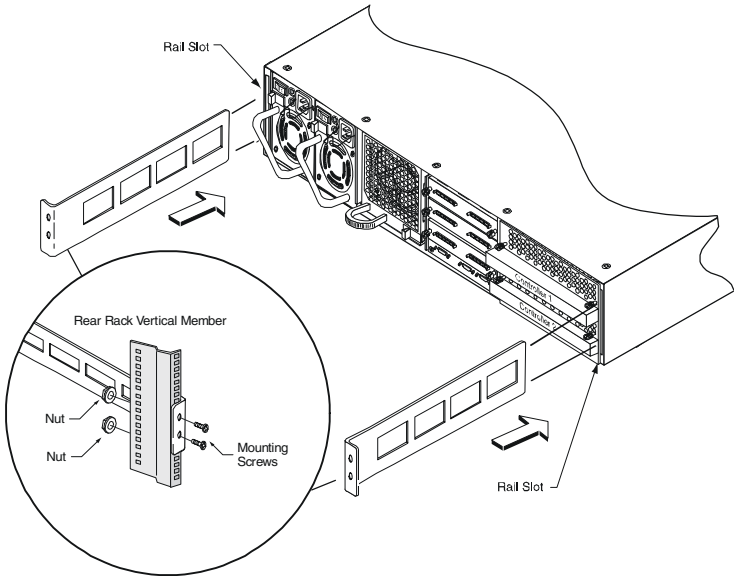

Figure 2-4 Attaching the Rails
- 9 Slide one of the rack's mounting rails into the slot on the left side of the RAID appliance's back panel. See Figure 2-4.